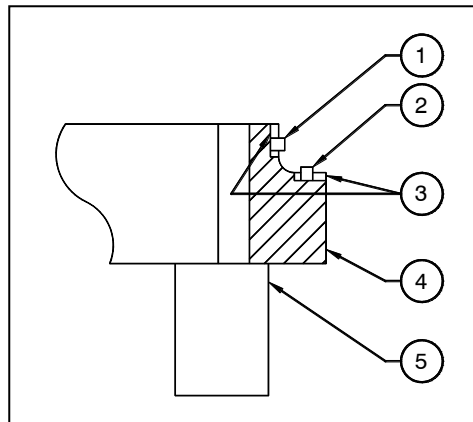

Figure 4.8a
- a. Place the main gear upside down on blocking for access to the bearing strips. See Figure 4.8a.